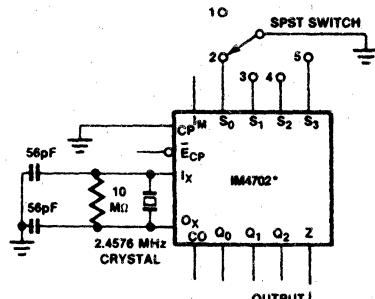

Figure 4: Switch Selectable Bit Rate Generator Configuration Providing Five Bit Rates
Figure 4 shows the simplest application of the IM4702/12. This circuit generates one of five possible bit rates as determined by the setting of a single pole, 5-position switch. The Bit Rate Output (Z) drives one standard TTL load or four low power Schottky loads over the full temperature range. The possible output frequencies correspond to 100, 150, 300, 1200, and 2400 or 3600 Baud. For many low cost terminals, these five bit rates are adequate.
The IM6402 differs from the IM6403 in the use of five device pins as indicated in Table 1 and Figure 4.